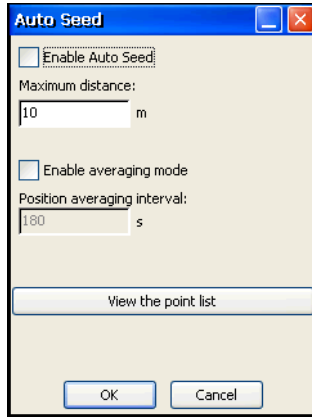

Figure 3-22. Base Configuration
11. For the Base receiver, click the **Auto Seed** icon, and set the following parameters (Figure 3-22 on page 3-25), then click **OK**.